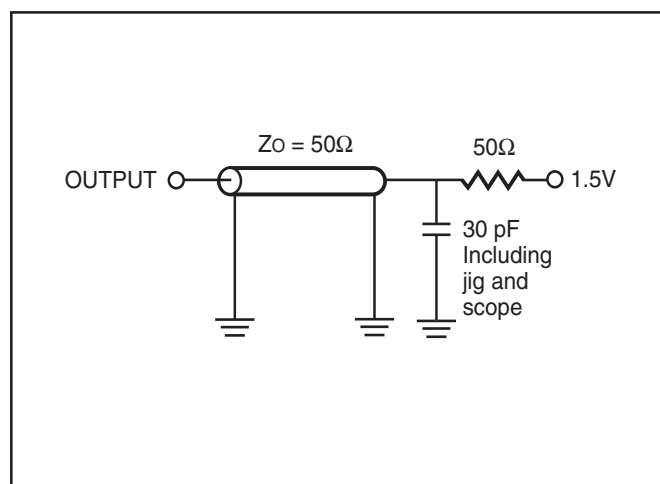

Figure 1
| Output Load                                 | See Figures 1 and 2 |
- Test conditions assume signal transition times of 3 ns or less, timing reference levels of 1.5V, input pulse levels of 0V to 3.0V and output loading specified in Figure 1.
1. Test conditions assume signal transition times of 3 ns or less, timing reference levels of 1.5V, input pulse levels of 0V to 3.0V and output loading specified in Figure 1.